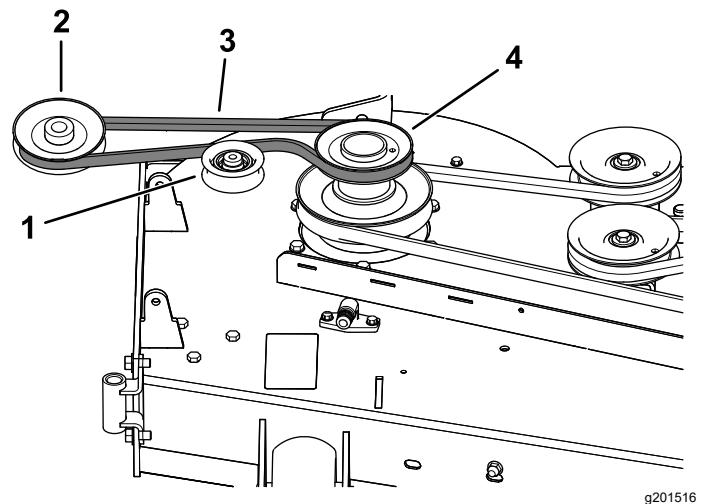
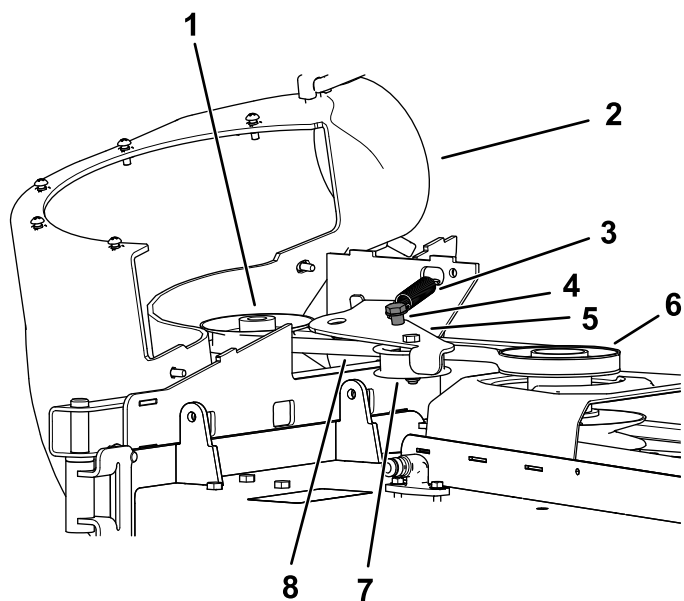

Figure 26
Figure 27
- If necessary, install the belt onto the blower pulley (Figure 26).
1. Install the belt around the blower pulley (Figure 26 and Figure 27); refer to 11 Installing the Blower Assembly (page 16).
3. Pull the spring loaded idler pulley away from the fixed spring post, and route the belt around the mower deck pulley (Figure 27).
4. Route the belt around the drive pulley as illustrated in Figure 26 and Figure 27.